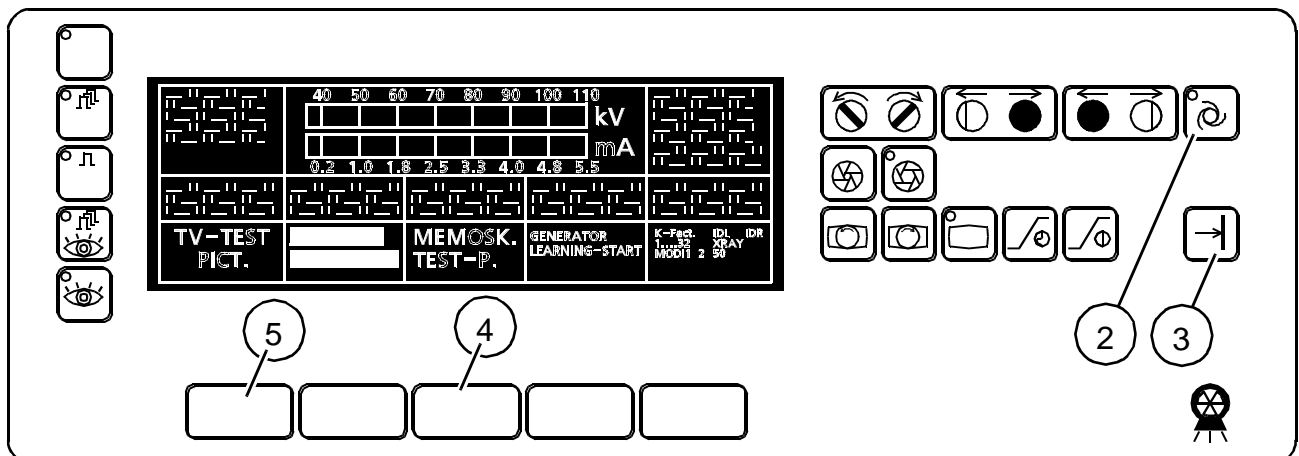

Fig. 1
2. Button (2/Fig.1) on the control console,
3. and multiformat camera release button (3/Fig.1)
The "internal service menu" is displayed on the control console (Fig.1).
- Press the third button (soft key, 4/Fig. 1) on the control console and wait until a memory test image is reconstructed (approx. 15 seconds).
- Page through the memory test images by pressing the third soft key (4/Fig.1).